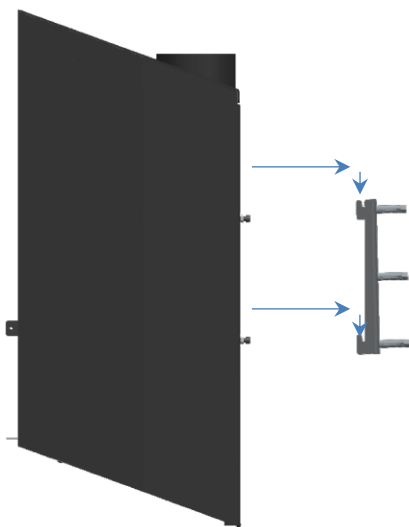

Figure 23 - Positioning the stove on the wall support
4. Finally, place the stove on the wall supports (D) installed previously. To do this, first place the stove on the support and then let the equipment fall until it fits into the grooves of both supports, Figure 23.